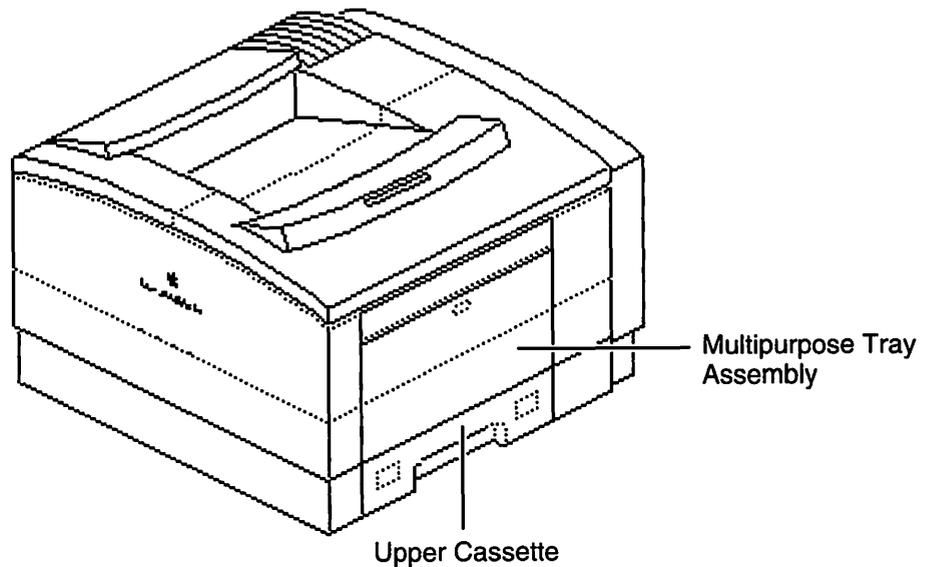

Figure 1-5
- The multipurpose tray assembly (see Figure 1-5) holds 100 sheets of paper for manual or automatic feed.
- The upper cassette (see Figure 1-5) holds 250 sheets of paper for automatic feed.